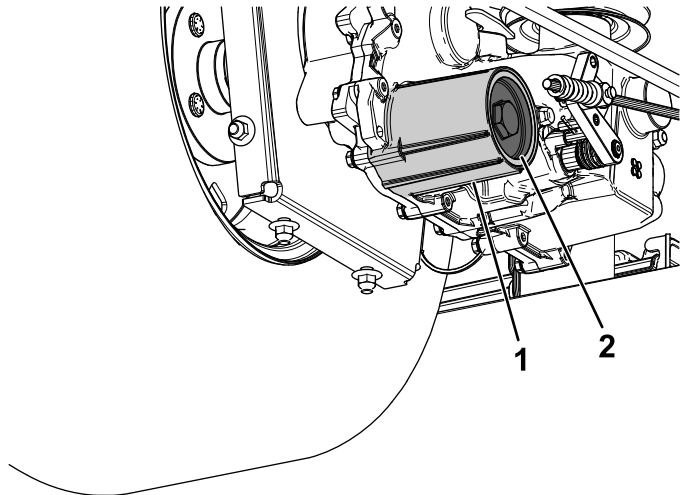

Figure 74
7. Remove the hydraulic-fluid filter cover from the transaxle to drain the fluid (Figure 74).